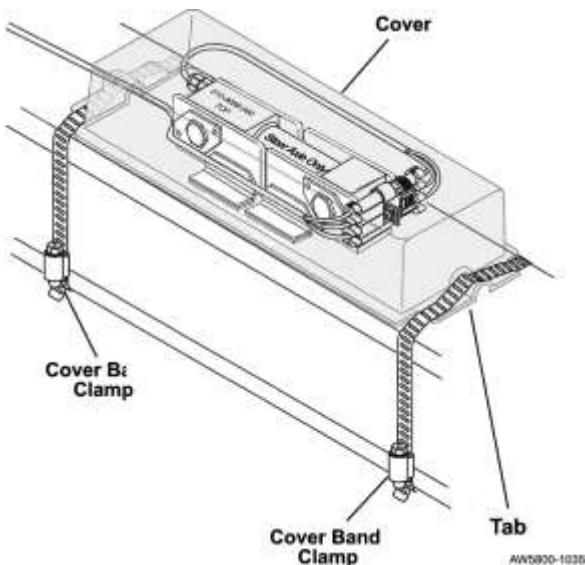
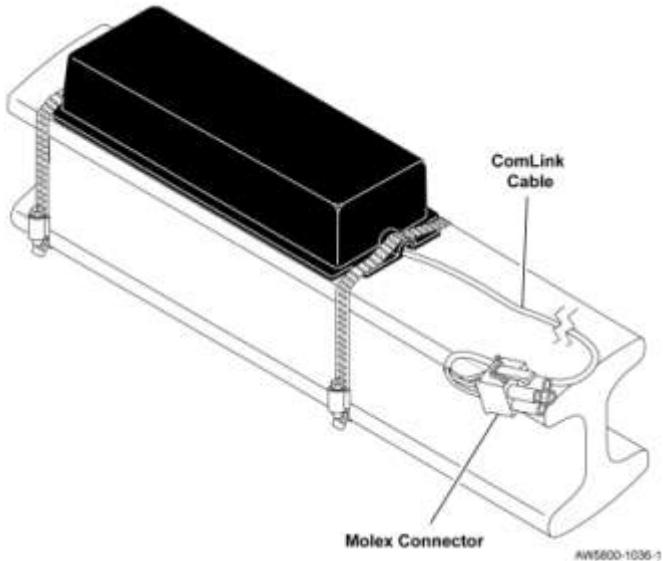

Fig. 13: Attaching Band Clamps to Cover
Fig. 14: Cover with Sensor Extension Cable
6. Very loosely install band clamps around the steer axle on both ends of the deflection sensor cover. Ensure that the band clamp on each side circles both the steer axle and the cover flange (Fig. 13). Fig. 14 shows completed installation.